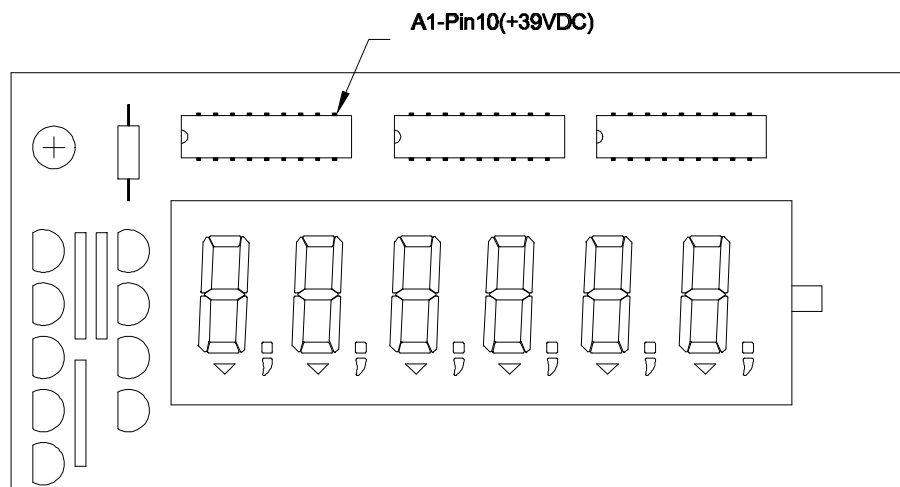

Figure 7-4: Dual Display PCB Display Voltage Check
- 8 - **+39 VDC:** Display Voltage (A1 pin 10, Figure 7-4).